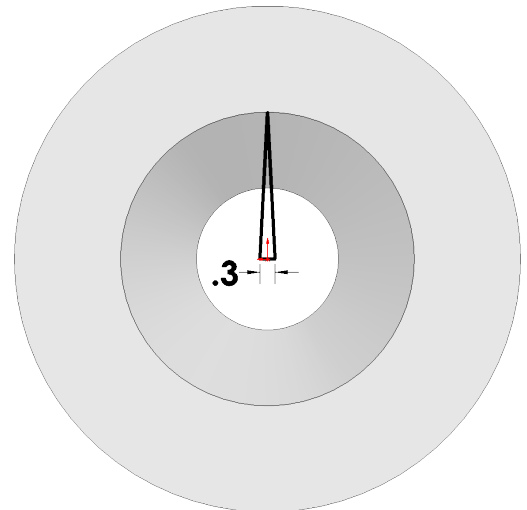

Fig. 12
Step 9. Click **Smart Dimension** (S) on the Sketch toolbar.
Step 10. Dimension horizontal line **.3**, **Fig. 12.**